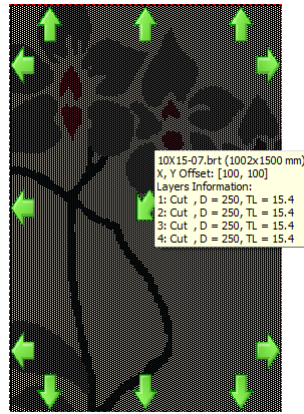

Figure 60: Information on tuft history
**i** If you hold the mouse pointer on the previous tufted carpet you can see the tufting parameters of it including: X and Y Offsets, Layers properties including pile type, density and tuft length. (See Figure 60: Information on tuft history)